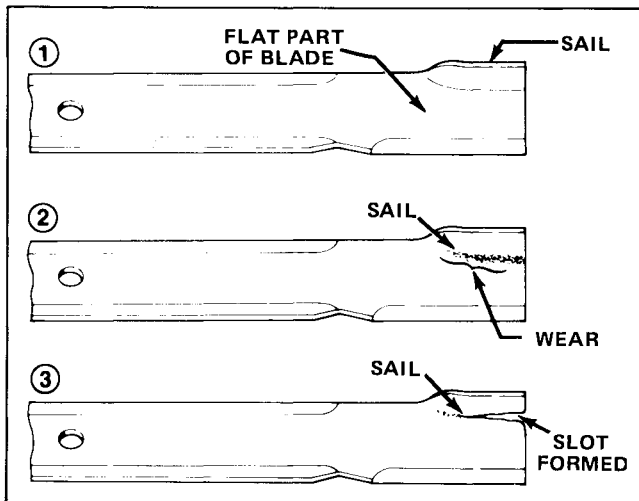

Figure 25
2. Examine cutting ends of the blade carefully, especially where the flat and curved parts of the blade meet (Fig. 25). Since sand and abrasive material can wear away the metal that connects the flat and curved parts of the blade, check the blade before using the mower. If wear is noticed (Fig. 25), replace the blade.